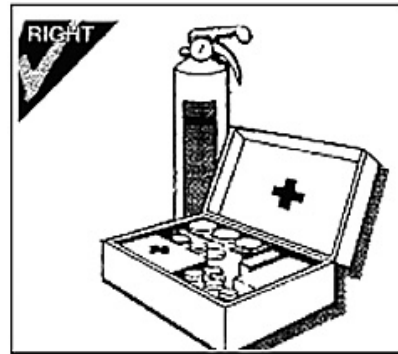

Figure 1-3
1.3.1.4 Know the location of the fire extinguisher and the first aid kit, and memorize the numbers of emergency (figure 1-3).